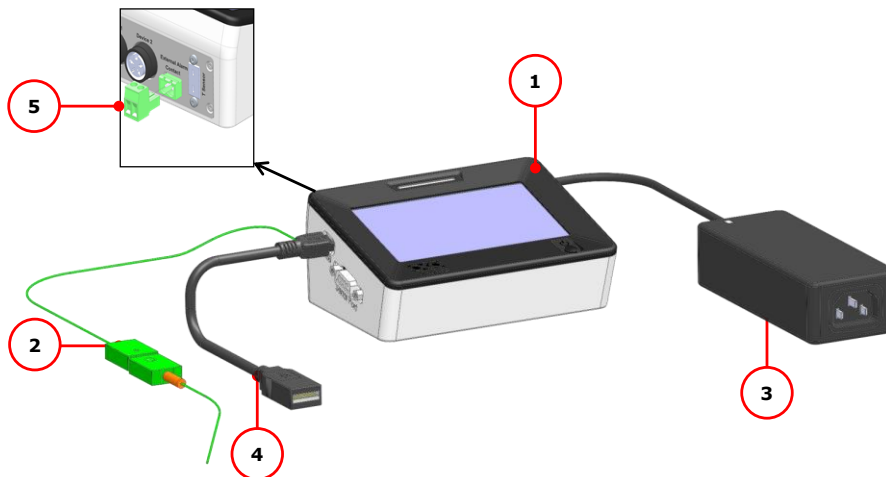

Figure 1. H401-T-CONTROLLER – Components.
- 1 **Controller.** Dual channel temperature controller. See pointer 1 in Figure 1.
- 2 **T Sensor.** Fine gauge immersible thermocouple, which can be used to calibrate the heating devices connected to the Controller and to meter temperature, as needed. See pointer 2 in Figure 1.
- 3 **Power feeder and power cord.** 24V DC-120 W power feeder. See pointer 3 in Figure 1.
- 4 **MINI-USB-OTG.** Mini USB OTG cable to connect a USB drive to the H401-T-CONTROLLER for data download. See pointer 4 in Figure 1.
- 5 **Alarm screw terminal.** Contact closure alarm. See pointer 5 in Figure 1.